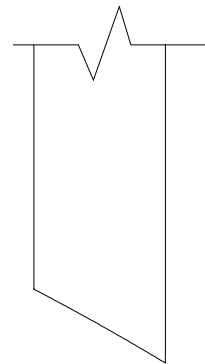

FIG. 31
D. Next manually rotate to blade #2 and grind blade #2 and continue to grind all of the blades without changing the grinding wheel setting. If you have brought all of the blades to a sharp edge, advance the grinding wheel slightly and regrind the blades, in reverse order-- starting with the highest blade number and going down. Example: #5 then 4,3,2,1. The reason for this is to get a better finish and to compensate for grinding wheel wear on the original grind. If the blade is not ground to a sharp edge, adjust the horizontal infeed wheel and grind another cycle. Grind the blades 2-3-4-5-1 as an example on the second cycle. Listed on FIG. 30 are two optional methods to stagger reel blades during grinding. The reel must be ground until you achieve a sharp edge. See FIG. 31. Again, always reverse order with a slight infeed after achieving a sharp edge.